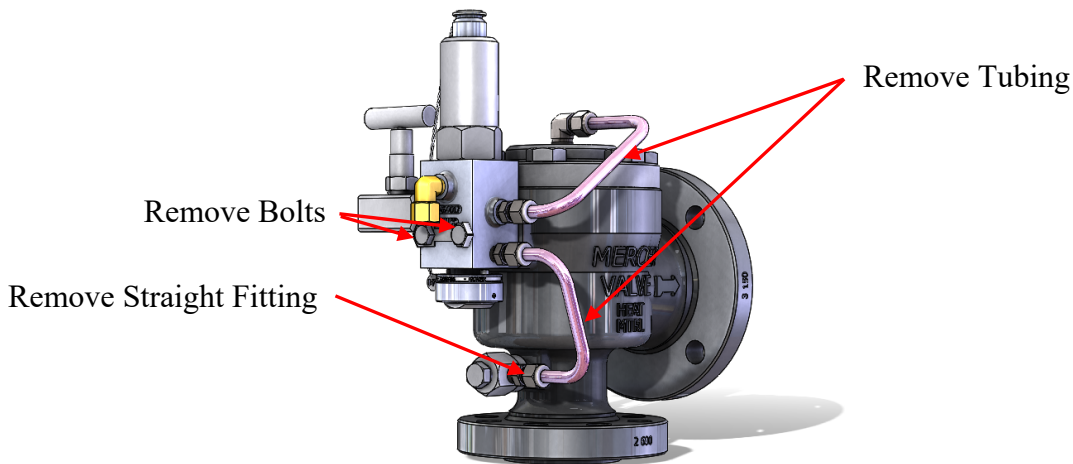

Figure 61: No Options Equipped
1. Remove the existing tubing connecting the pilot valve to the main valve. See Figure 61.
2. Remove the bolts that hold the pilot to the main valve. See Figure 61.
4. Remove the 3/8" tube to 1/4" NPT straight fitting from the pressure probe. See Figure 61.